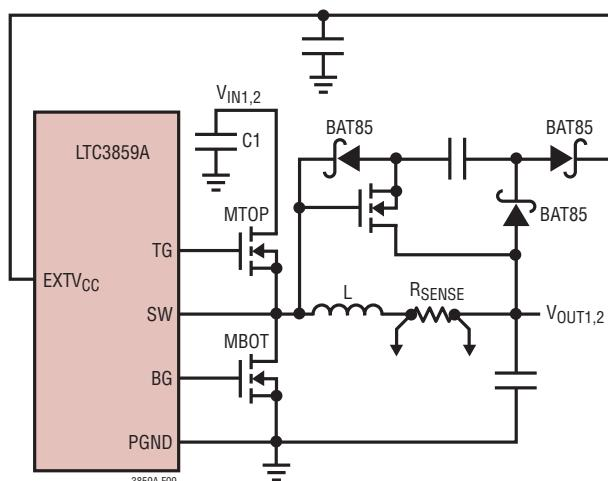

Figure 9. Capacitive Charge Pump for EXTV_{CC}
4. EXTV_{CC} connected to an output-derived boost network off one of the buck regulators. For 3.3V and other low voltage buck regulators, efficiency gains can still be realized by connecting EXTV_{CC} to an output-derived voltage that has been boosted to greater than 4.7V. This can be done with the capacitive charge pump shown in Figure 9. Ensure that EXTV_{CC} < V_{BIAS}.